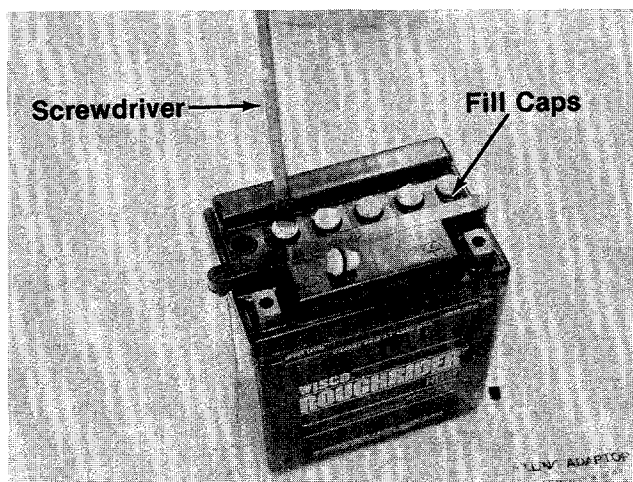

FIGURE 8.
- ← 4. Remove the six fill caps from the top of the battery with a screwdriver. Care should be taken not to damage the fill caps. See figure 8.